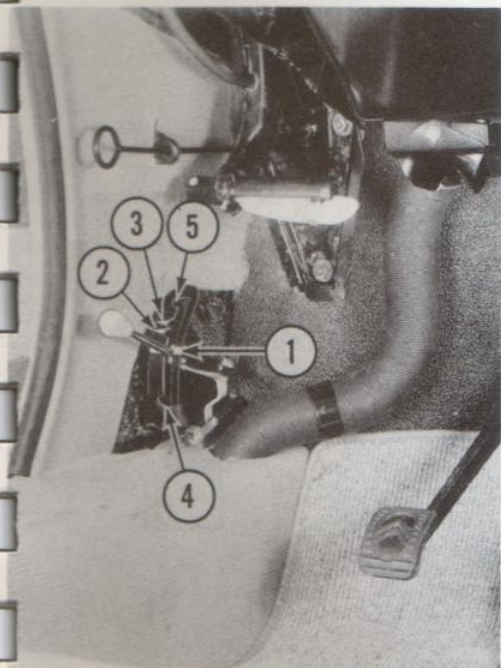

fig. 10
To determine the fluid level, start the engine and let it run at idling speed. Set the height control lever in maximum high position. Notch 5 fig. 10.
road clearance adjustment fig. 10
- Set height control lever to top position fig. 10. Let car rise and stabilize at upper lever.
- Raise car to high position slot 5 fig. 10 and remove stand.